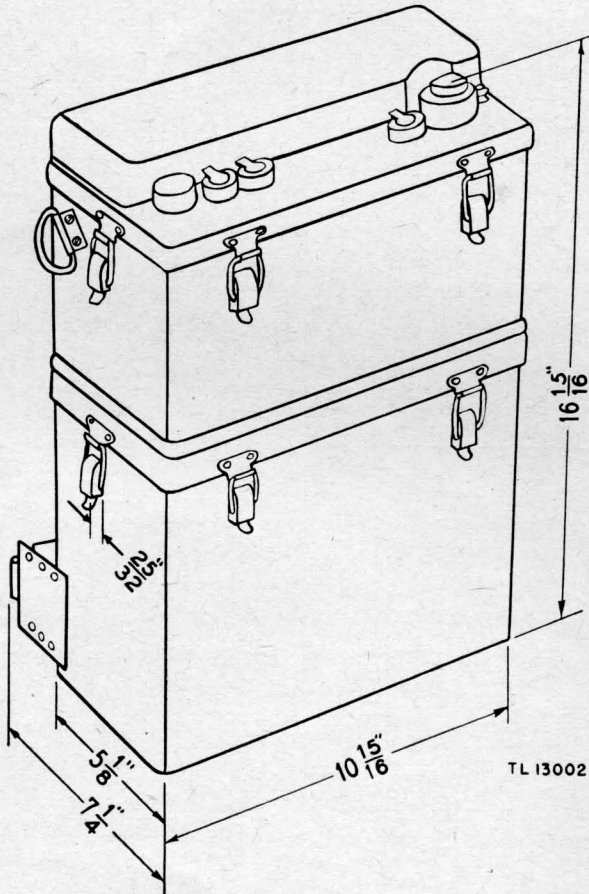

Figure 5. Radio Receiver and Transmitter BC-1000-A—outline dimensional drawing.
a. The single Radio Set SCR-300-A is packed in a cardboard carton  $20\frac{7}{8}$  inches long,  $15\frac{1}{8}$  inches wide, and  $10\frac{1}{4}$  inches deep. The total weight is  $35\frac{1}{2}$  pounds. For dimensions of the unpacked set, see figure 5 and consult table II.